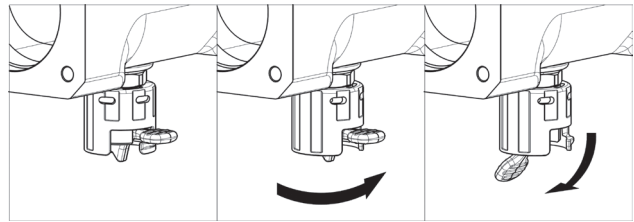

Fig. 10
**For the "work" and "rest" positions, see Fig. 10.**